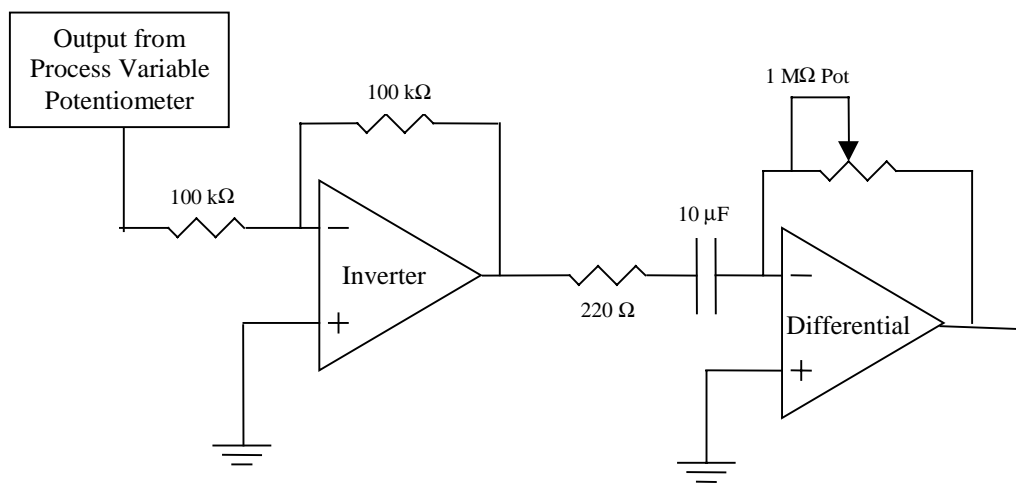

Figure 20a: Circuit diagram for the inverter and the derivative controller
10. Wire the inverter and derivative controller as shown in Figs. 20a-b.